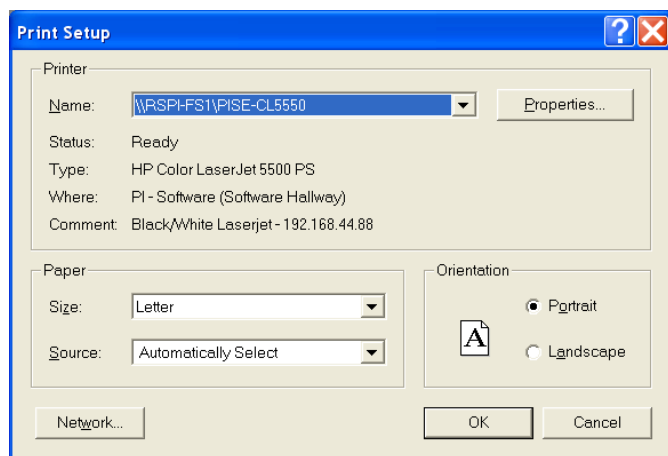

Figure 157. Print Setup dialog
1. Open the file you want to print. Make sure that window is the active one. From the **File** menu, open the **Print Setup** dialog (Figure 157).